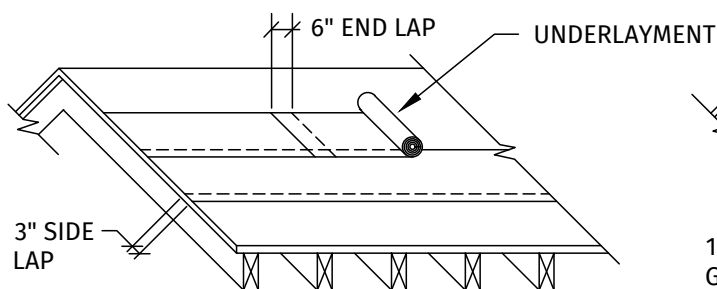

Figure 1
3. Cover the entire roof deck with minimum 30 lb. asphalt saturated felt paper. Some synthetic underlayments may be used in place of felt with ASC Building Products' Skyline Roofing. Installer must ensure they meet the minimum standards of 30 lb felt and that the underlayment manufacturer has approved them for use with metal roofing. (Check with an ASC Building Products representative if project is in snow country). For Class A fire resistance, see notes below. For installation, begin at the eave and roll the underlayment horizontally (parallel to the eave). Allow each consecutive course to overlap the previous one 3". Overlap the ends a minimum of 6" when starting a new roll of underlayment. (See Figure 1). Areas of underlayment that have torn should be replaced or repaired prior to installation of the metal roof.